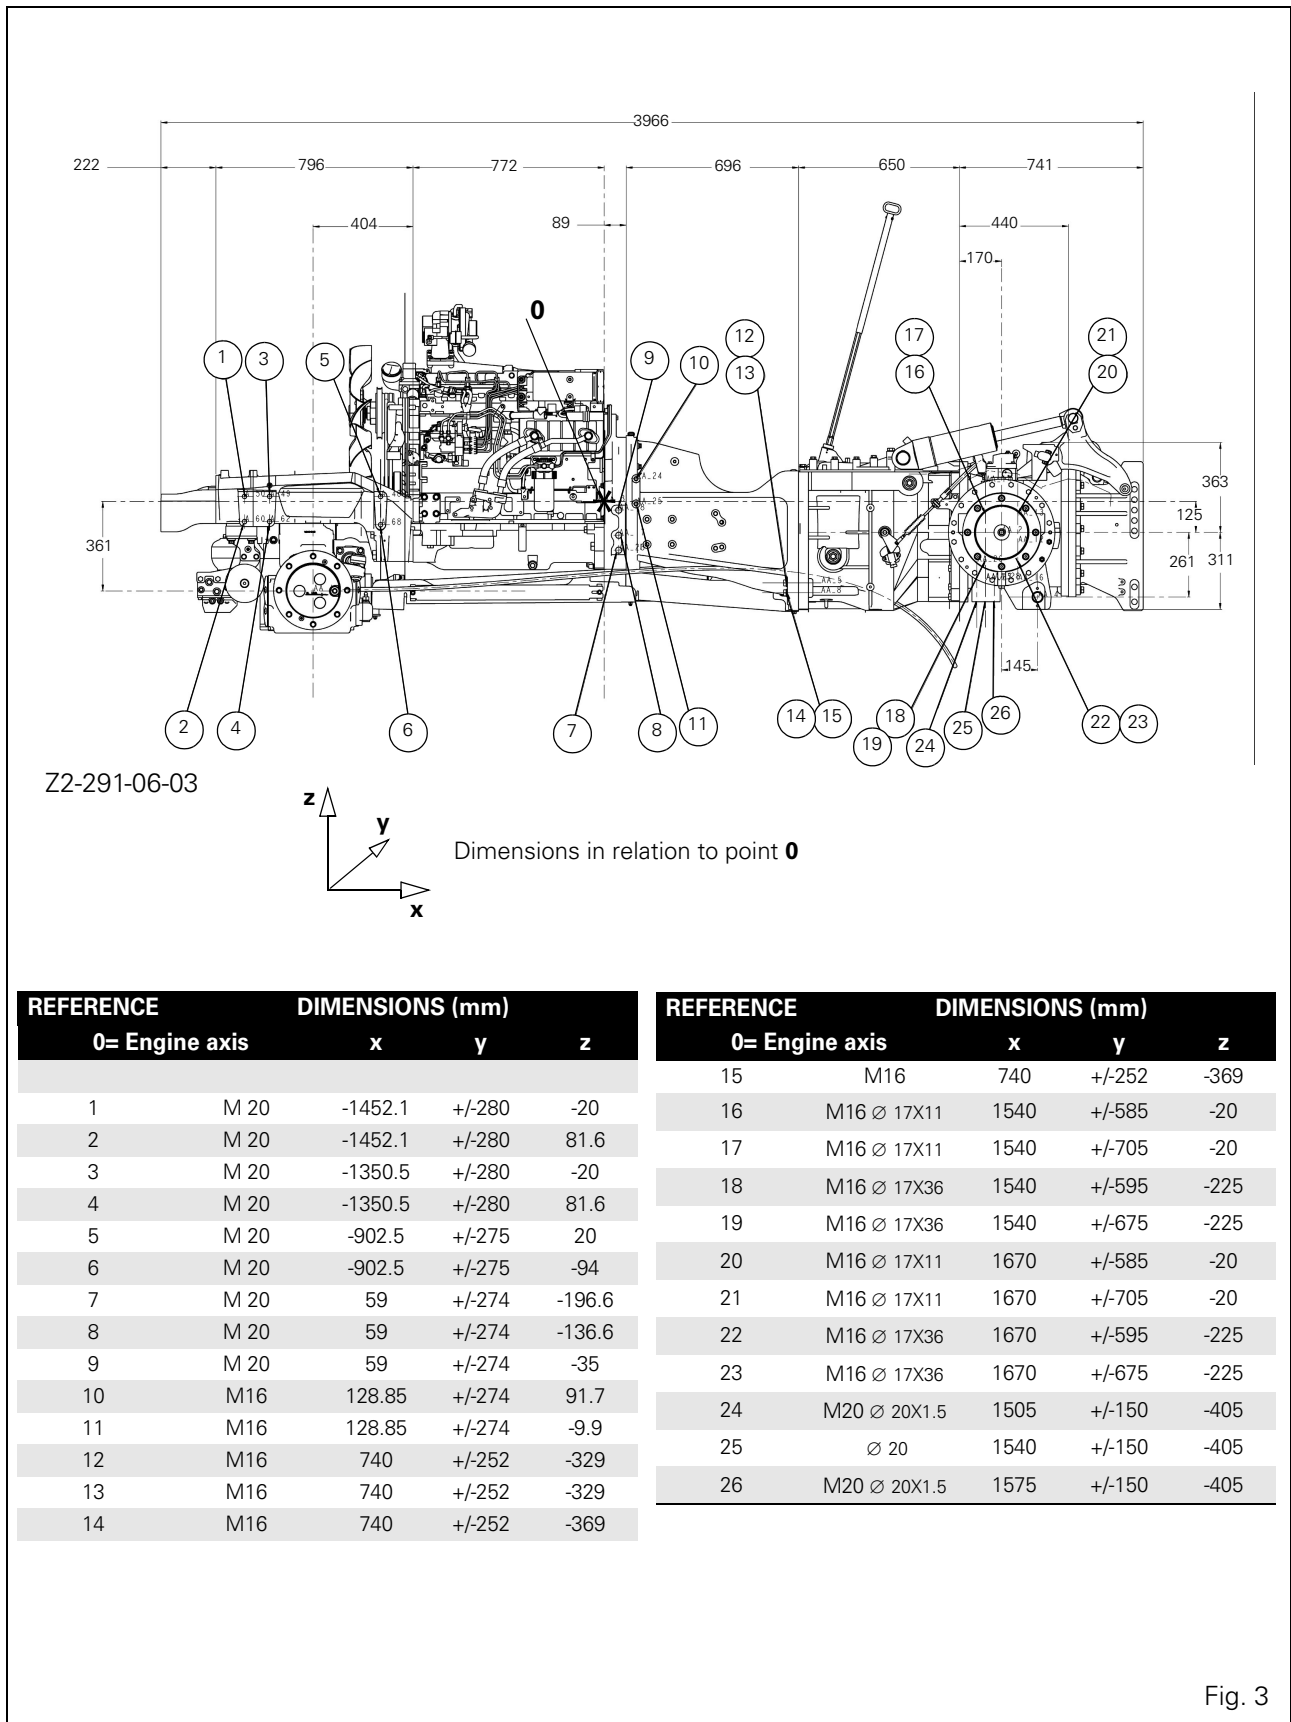

Fig. 3
7.8.2 Description of a memory (Fig. 3)	7.23